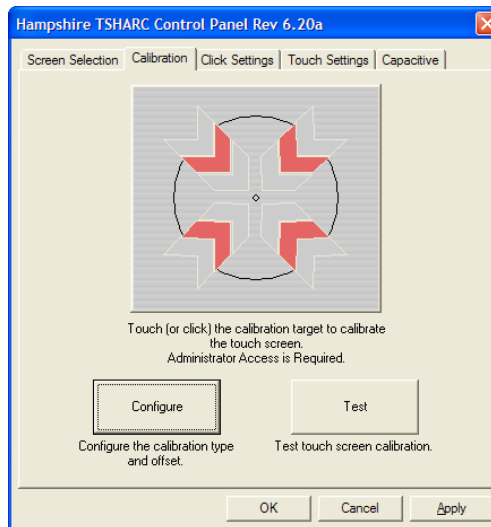

Figure 15 M6000 Controller, touch screen controller setup.
- 4 After the calibration program has started, select **Calibration** and press the **Configure** button as shown in Figure 15.
- 5 After selecting the calibration type, proceed with the calibration process by pressing the Calibration target, shown in Figure 15.